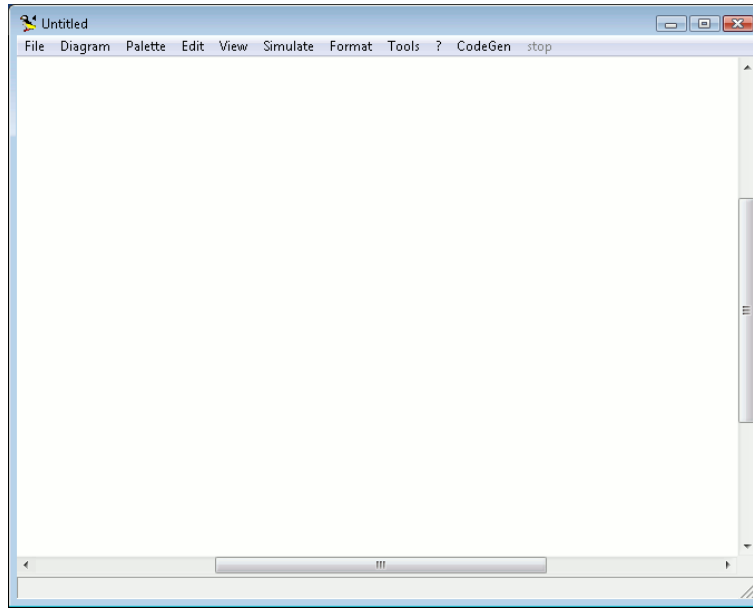

Figure 5.2: The Scicos splash screen.
3. The Scicos windows appears, as showed in Figure 5.2.